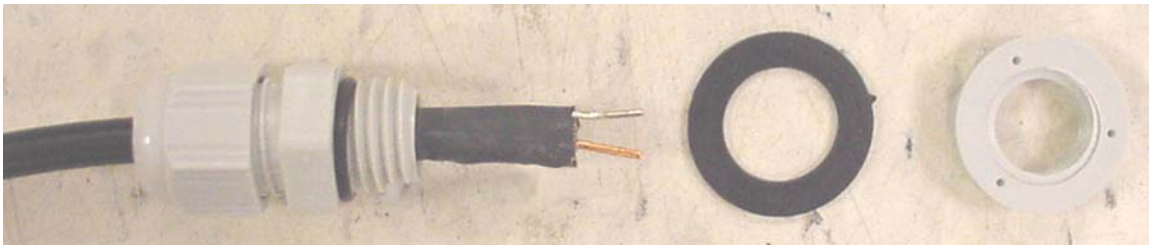

Figure 5-18 – NEMA Gland with Nut & Washer Removed
5.8.5 Remove the nut and washer (if provided) from the NEMA gland (Figure 5-18). Discard the washer.